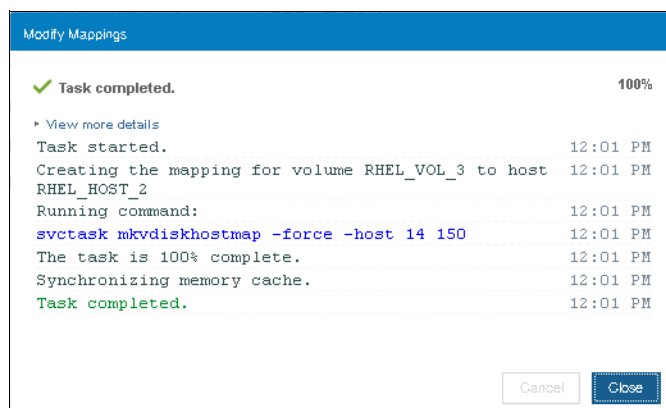

Figure 6-23 Volume mapped
5. Click **Map Volumes** and the Modify Mappings window displays the command details, and then a Task completed message as shown in Figure 6-23.